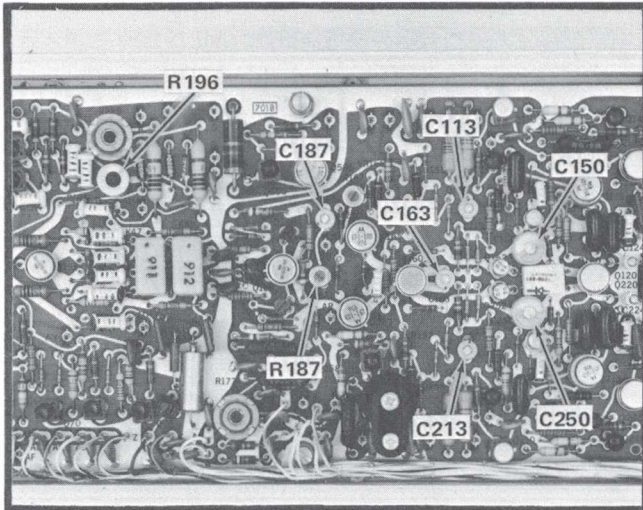

Fig. 5-9. Location of high-frequency adjustments on the Input board.
l. ADJUST—R196, R432, R333, R336, C187, R187, C163, C113, C150, C250 and C213 (see Figs. 5-9 and 5-10) in the given order for optimum response to a square wave. C250 and C213 are mainly – INPUT adjustments. To perform the adjustments, use the information in the procedure that follows.